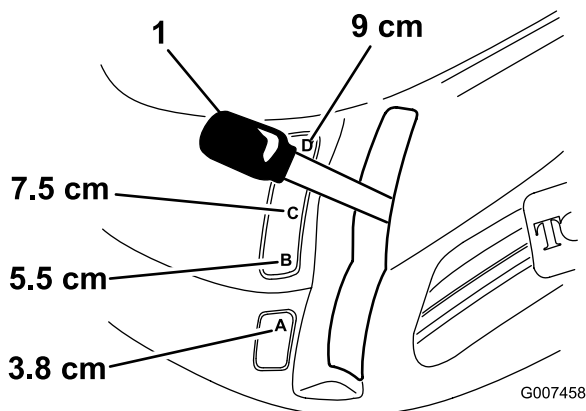

Figure 7
2. Pull on the height-of-cut lever, move it to the desired position, and release it slowly into the notch (Figure 7).